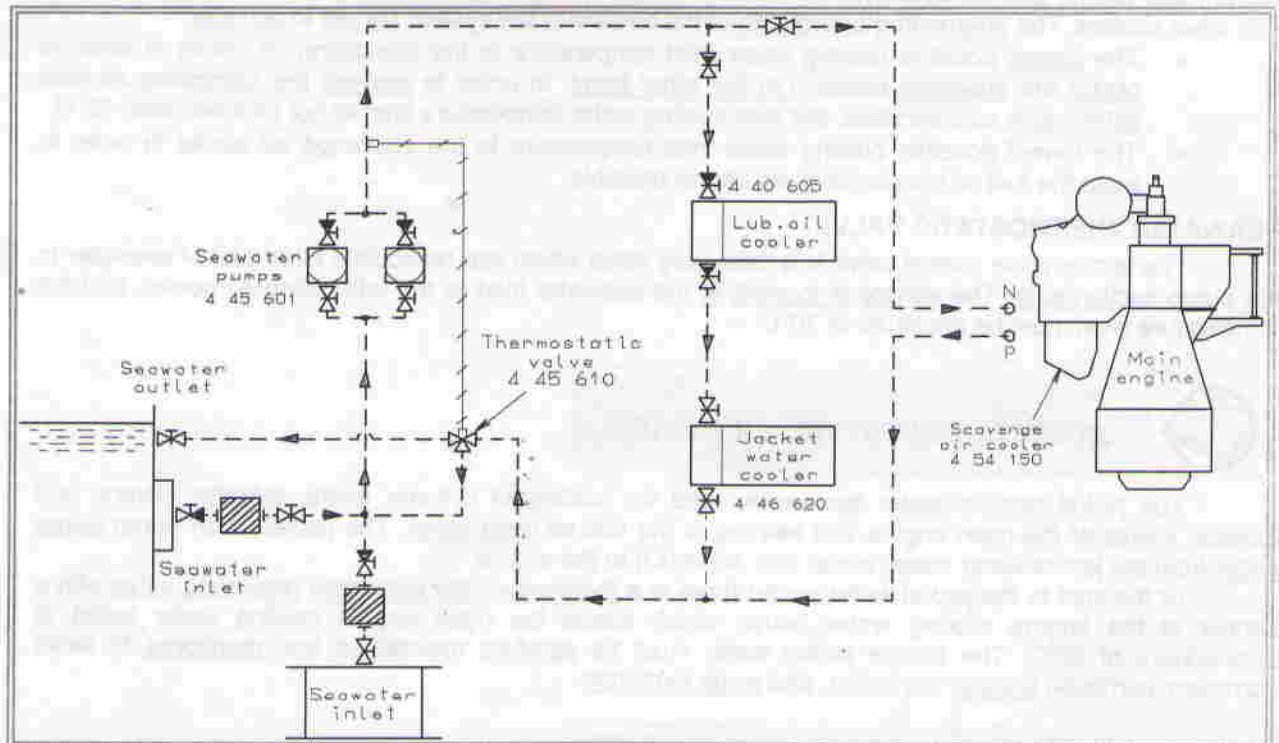

Fig. 4.01: Low Temperature Seawater Cooling System
- A low temperature seawater cooling system (Fig. 4.01) and a freshwater cooling system only for jacket cooling.